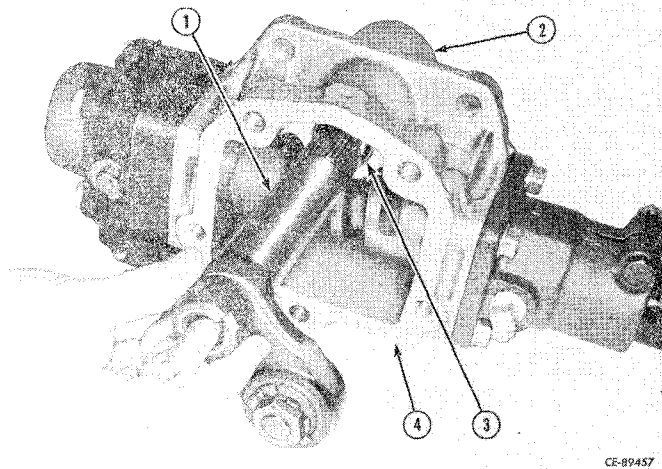

Figure 8-9
Slide lever shaft (1, Fig. 8-9) from housing (4) having first made sure there are no burrs on the outer end of the shaft to damage the bushings (3). If bushings are damaged, press out of housing.